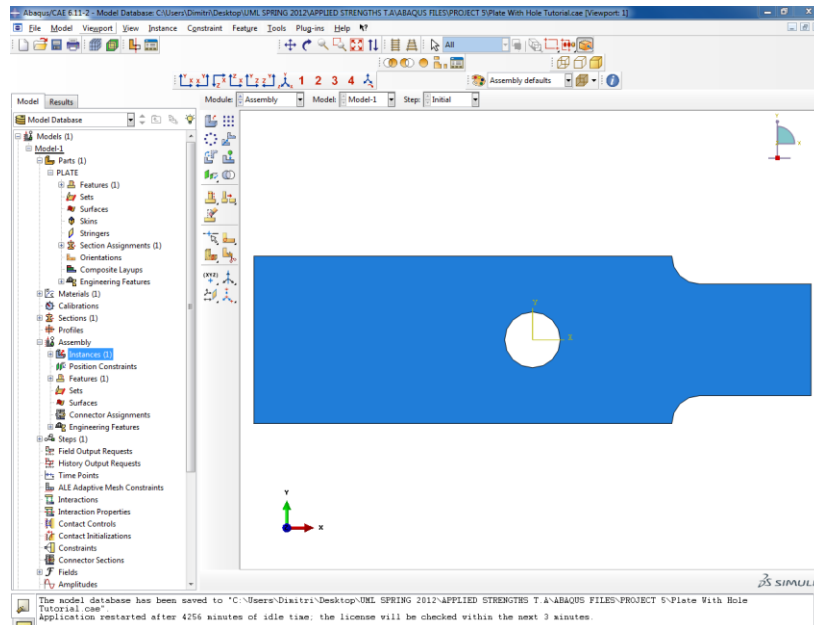

Figure 16. Instance Part
- Click **OK**. If this step was done correctly the model should turn a blue color (Figure 16).